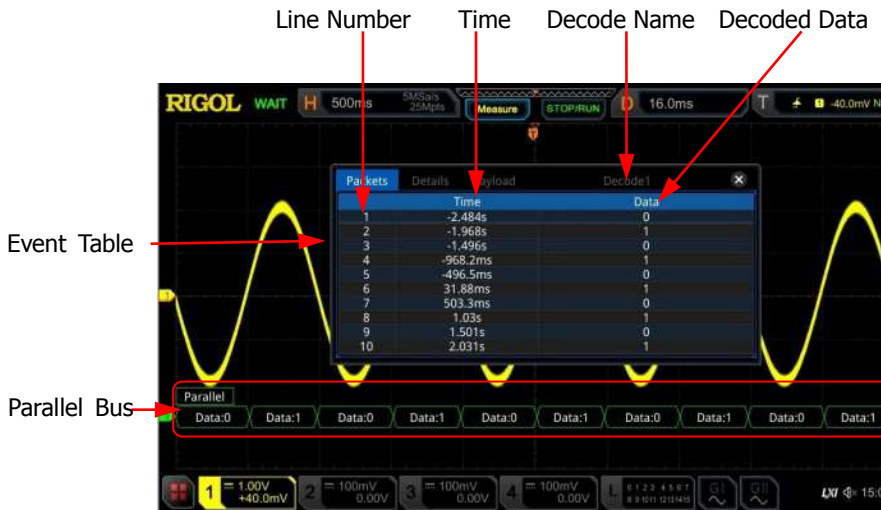

Figure 11-2 Parallel Decoding Event Table
- Open or close the event table: Press **Event Table** continuously to enable or disable the event table. When you enable the event table, the following figure is displayed, as shown in Figure 11-2. You can also enable the touch screen to tap the icon  at the upper-right corner of the table to close the event table. Besides, when the running status is "STOP", you can also rotate the multifunction knob  to select a specified line and view the corresponding decoding information.